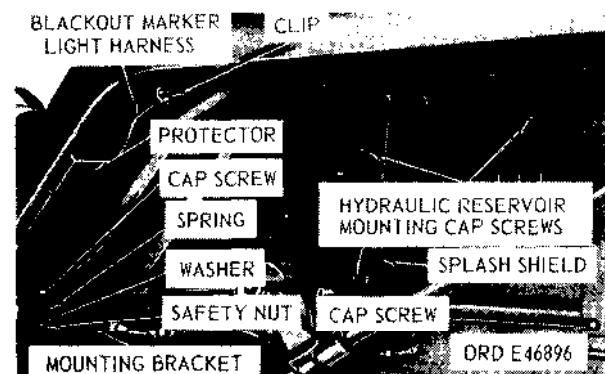

Figure 128. View of underside of left front fender.
- (3) Disconnect two inlet lines at rear end of reservoir
- (4) Disconnect outlet line at right side of reservoir.
securing mounting bracket on bottom of reservoir to top frame left side rail. (6) Support reservoir and remove two capscrews (fig. 128), four washers, and two safety nuts securing mounting brackets on front and rear end of reservoir to left front-fender splash shield. Remove reservoir from vehicle.
- (1) Position "steering gear hydraulic oil reservoir on top of frame left side rail immediately to the rear of the left headlight support bracket. Secure
mounting brackets on front and rear ends of reservoir to left front-fender splash shield with two capscrews (fig. 128), four washers, and two safety nuts. Tighten nuts.